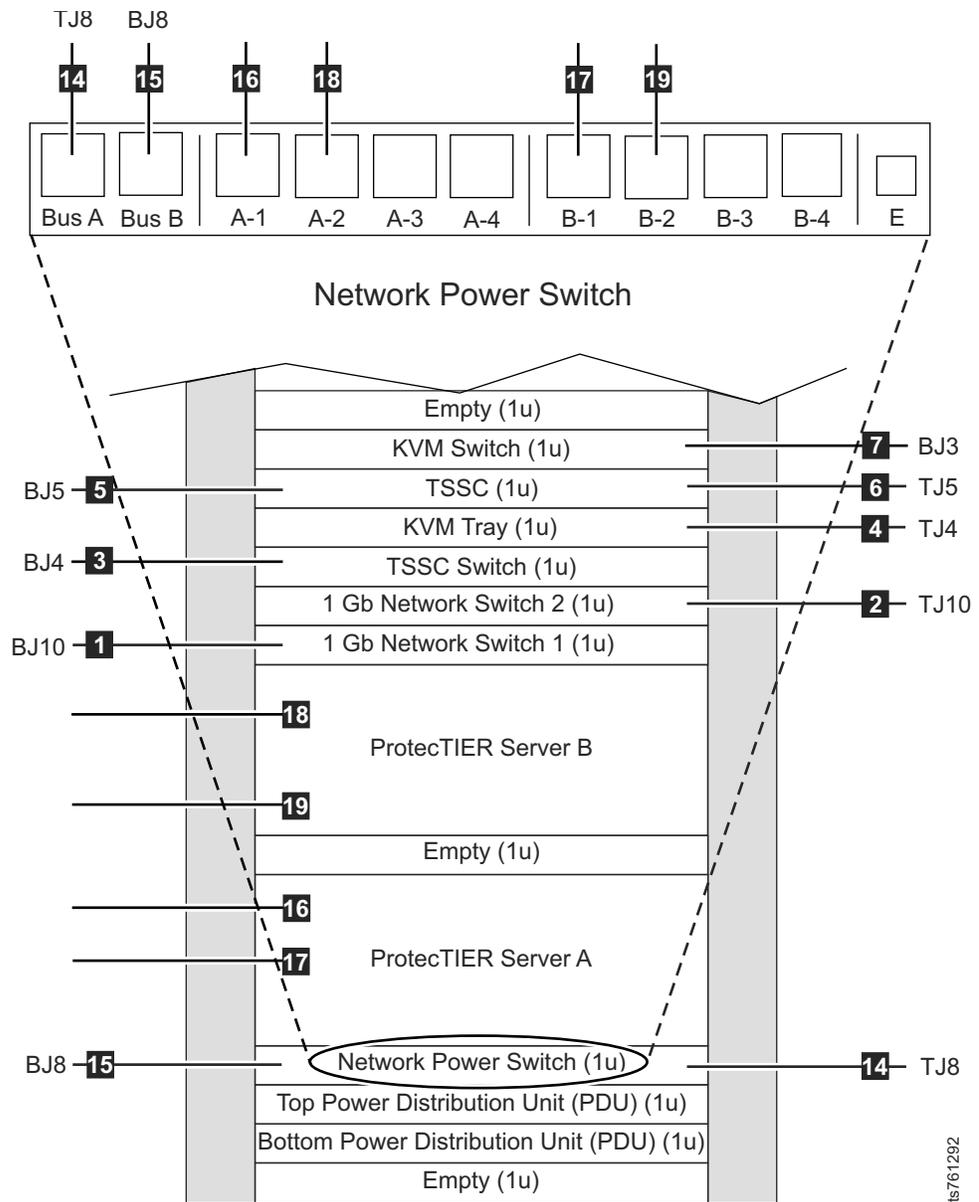

Figure 35. Single cluster TS7650G power cabling
- a. Remove power cables **1** and **2** from the AC power sockets on the rear of the switches. See Figure 35 on page 75 (for a single cluster) or Figure 36 on page 76 and Figure 37 on page 77 (for a dual cluster), whichever is applicable to your installation.